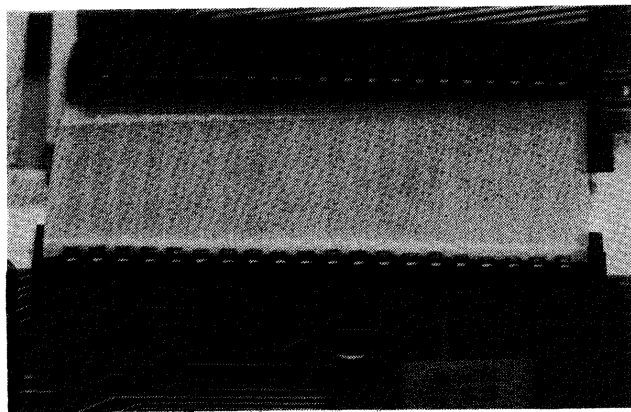
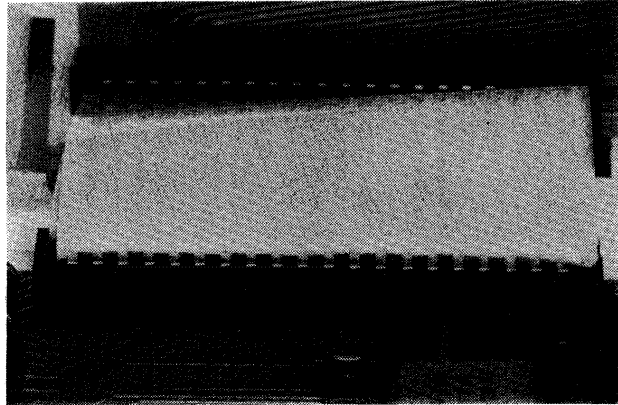

Figure 3-3. Cable Connected Properly
Figure 3-4. Cable Connected Misaligned
- c. Make sure that the cable contacts are properly aligned with the connector contacts and that neither edge of the cable is folded over. Figure 3-3 shows a cable connected properly. Figure 3-4 shows a cable connected misaligned, and figure 3-5 shows a cable connected with an edge folded over.